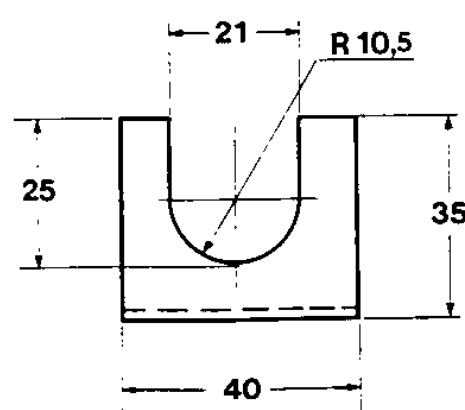

Fig. 48 Control template
- Insert the control template in fig. 48 (supplied on request) between the cap (ref. 15 for fig. 46a, 46b and ref. 17 for fig. 47) and the relative locking nut (ref. 13 for fig. 46a, 46b and ref. 15 for fig. 47)